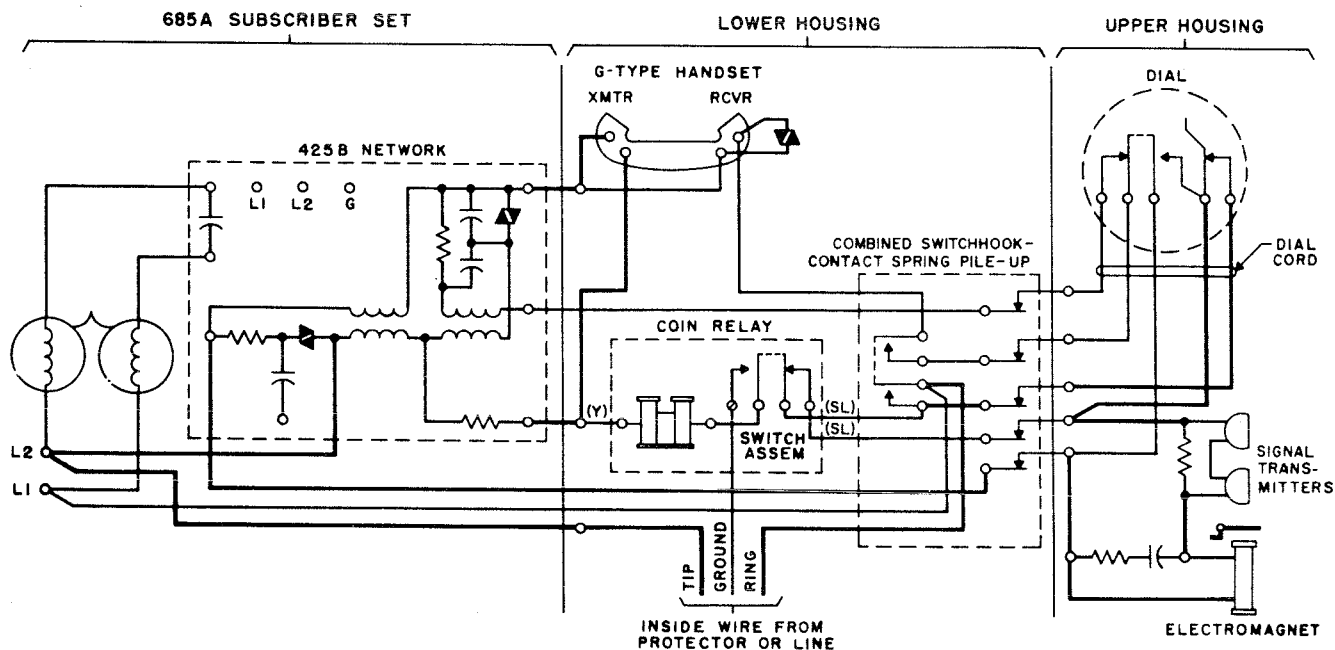

Fig. 1 — Prepay Network-type Coin Collector Circuit
**2.01** The talking circuit is the same as the one used in conventional telephones, except for the addition of two signal transmitters and an electromagnet in series in the primary circuit, as shown in Fig. 1.